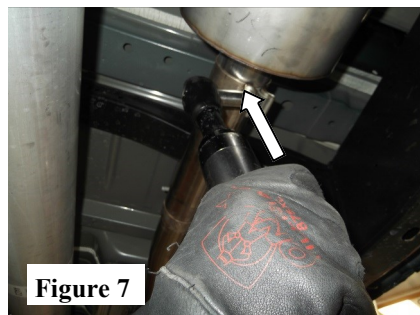

Figure 7
3. Using a muffler stand or an assistant for support, place a clamp on the inlet of the **Muffler Assembly** and insert to the **Front Pipe Assembly** (or **Extension Pipe Assembly**, refer to Step 2). (See Fig. 7)